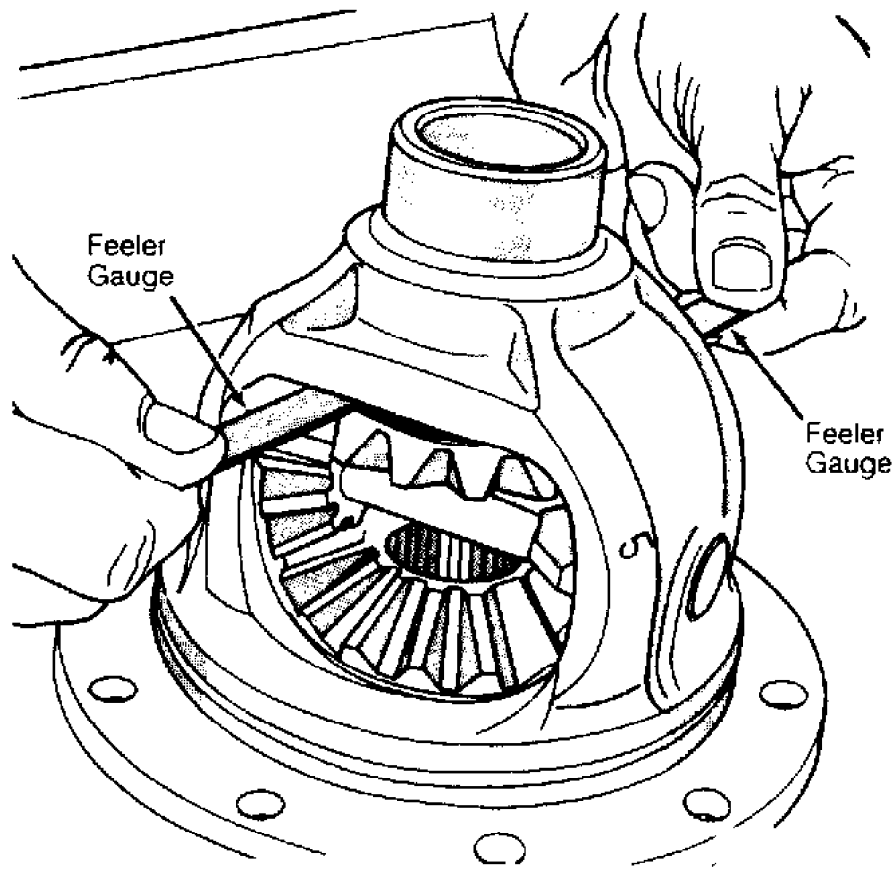

Fig. 4: Checking Side Gear Clearance
1) Place drive axle assembly on bench. Using 2 feeler gauges, measure carrier side gear clearance. See Fig. 4. If side gear clearance exceeds specification, replace both side gear thrust washers. See SIDE GEAR CLEARANCE SPECIFICATIONS table.